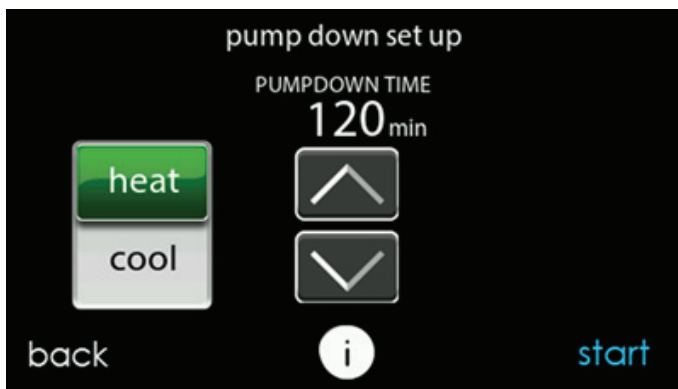

Fig. 21 – Pump Down Setup Screen
3. Select mode to pump down in (COOL or HEAT), COOL mode allows refrigerant to be isolated in outdoor unit. HEAT mode allows the refrigerant to be isolated in indoor coil and lineset. Set desired time period. Default time period for the procedure is 120 minutes. See Fig. 21.